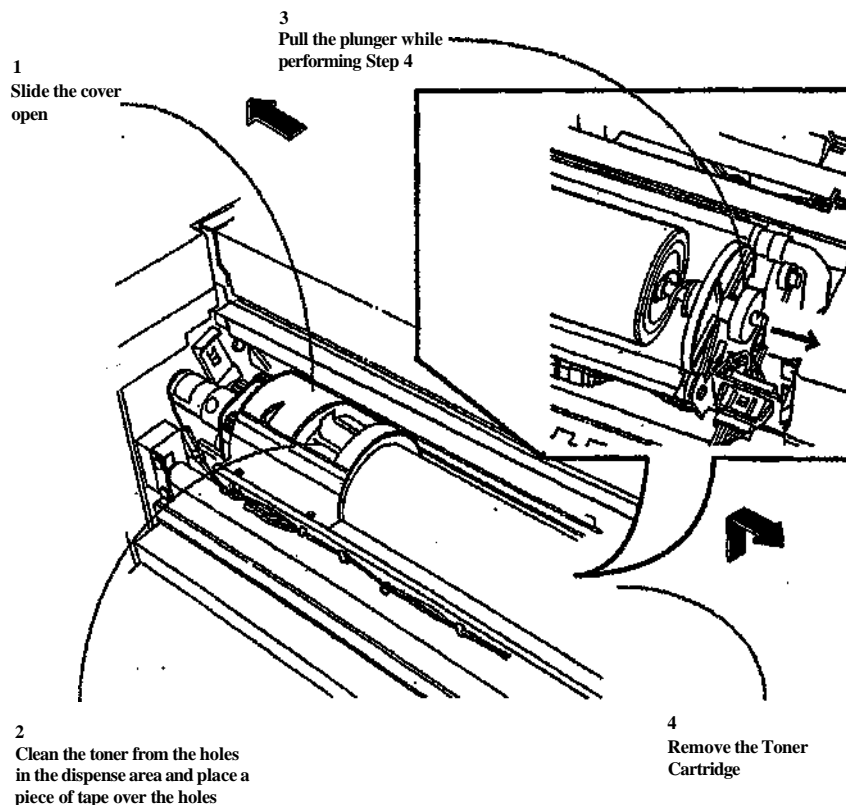

Figure 1. Removing the Toner Cartridge
5. (Figure 1): Remove the Toner Cartridge.